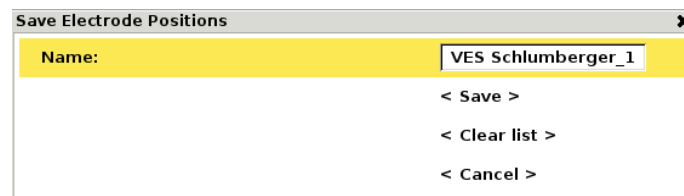

Figure 74 VES Electrode Positions save dialog
- Press <OPT> to bring up the *Save* dialog (Figure 74)